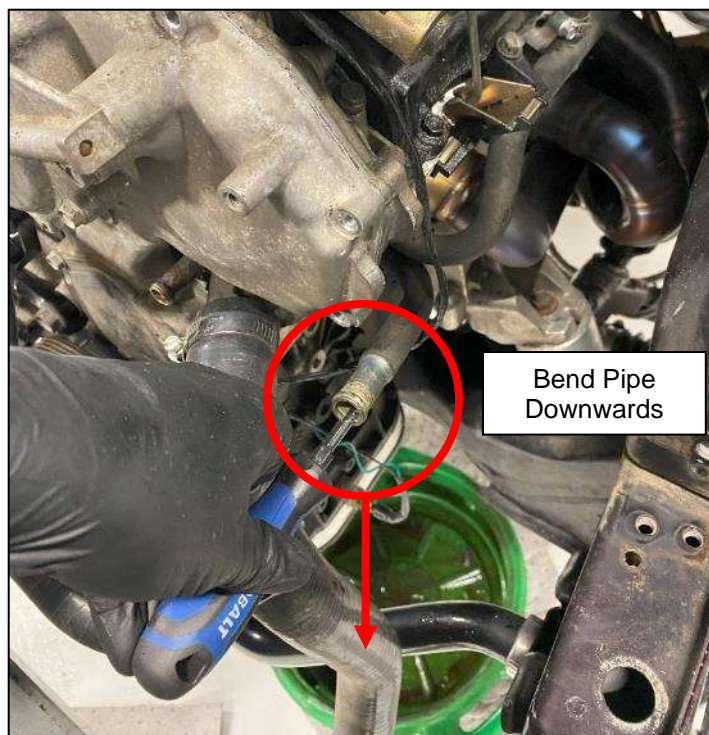

Figure 28
19. With a screwdriver or similar tool, bend the Coolant Hard Pipe downwards some. This needs to be slightly bent to clear the Supercharger once installed and may need to be bent more later. *Figure 28.*